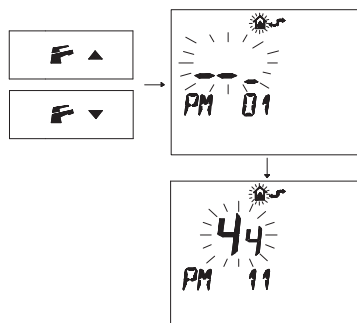

Fig. 8.20
- Press buttons **PM** ▼ or **PM** ▲ to display the **"PM11"** program of the pump post-circulation (Fig. 8.20).